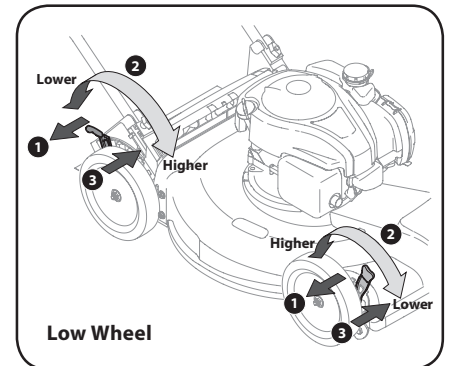
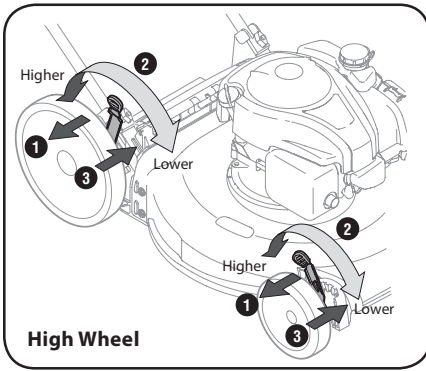

Figure 2-11
Figure 2-12
- Move lever to desired position for a change in cutting height. See Figure 2-11 for low wheel and Figure 2-12 for high wheel.
3. Release lever towards deck. See Figure 2-11 and Figure 2-12.